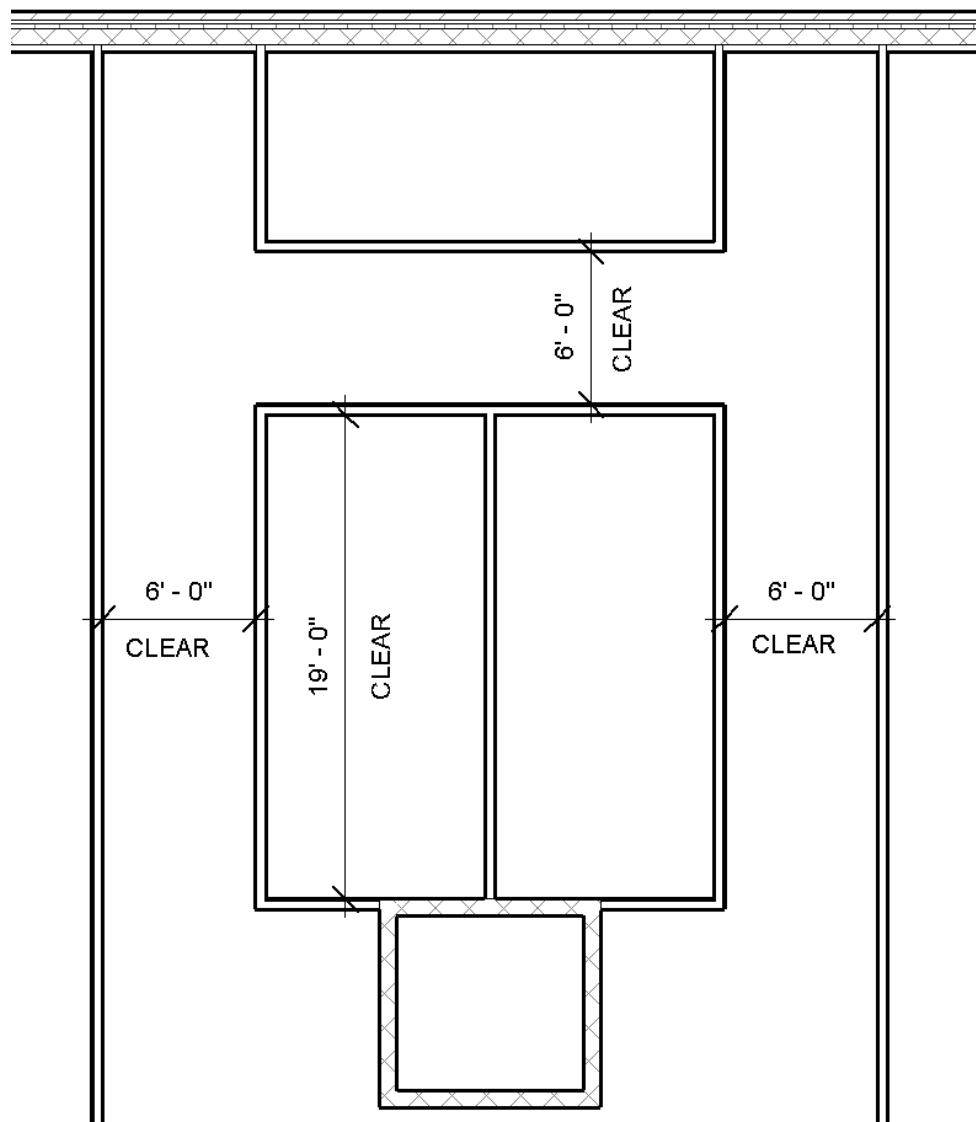

FIGURE 3-3.11 Remaining interior walls
31. Draw the additional walls shown in Figure 3-3.11. Make sure to position the walls per the dimensions shown. Use the *Measure* tool to verify accuracy. Also, modify the *Location Line* as required.